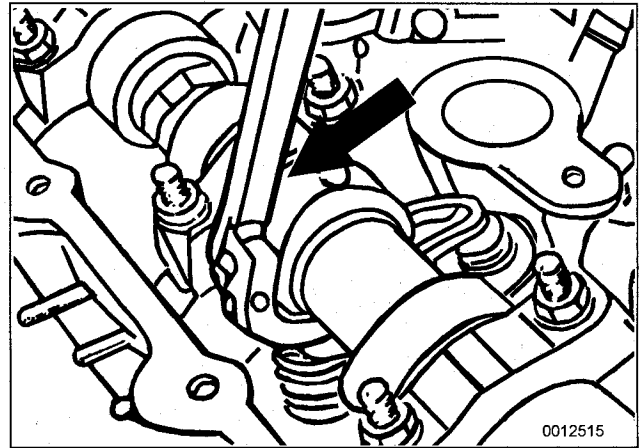

Fig. 3. BMW special tool no. 11 5 130 (arrow) being used to depress valve stem to remove rocker arm.
3. Rotate engine until a pair of camshaft lobes are pointing up. Using BMW special tool 11 5 130, depress each valve and valve spring enough to remove rocker arms. Rotate engine for the next pair of rocker arms. See Fig. 3.